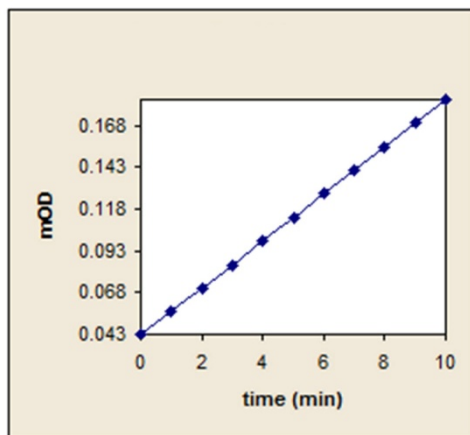

Figure 1. Plot of OD vs. time. Slope= $V=1.39E-02$ OD/min
1. Plot data as OD versus time for each sample (see Fig. 1).